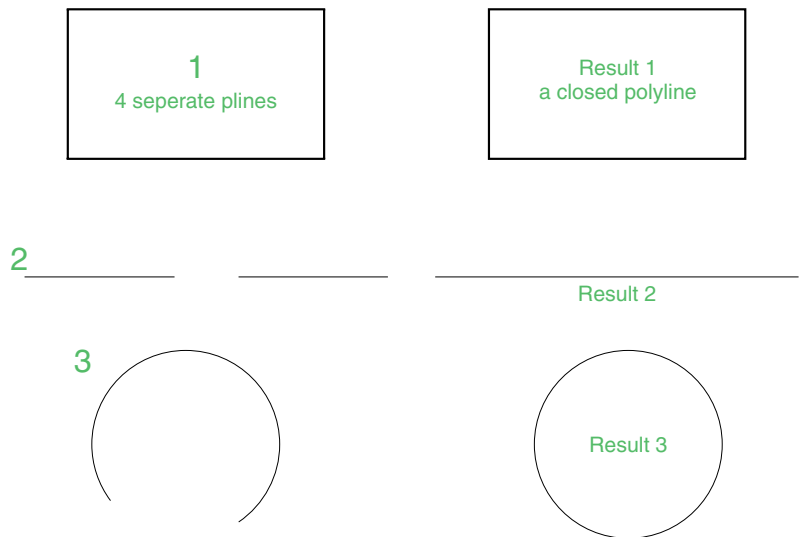

Fig. 5.38 Examples – **Join**
Examples – Join (Fig. 5.38)
1. Construct a rectangle from four separate plines – drawing **1** of Fig. 5.38; construct two lines – drawing **2** of Fig. 5.38 and an arc – drawing **3** of Fig. 5.38.
The results are shown in Fig. 5.38.